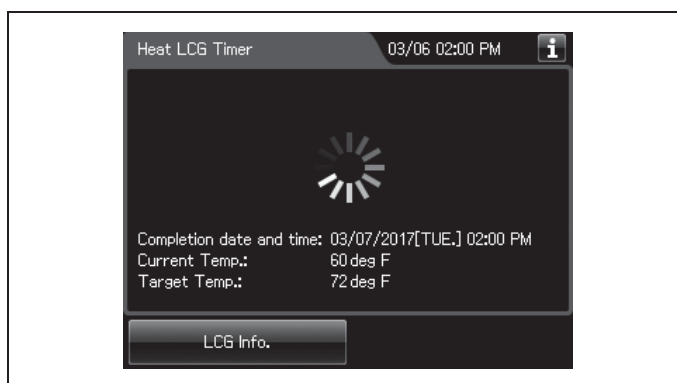

Figure 7.10
- If no operation is made more than 5 minutes, the touch screen appears to turn off. To display the touch screen again, press the touch screen or the button on the control panel. For detail of executing, the touch screen displays a screen as shown Figure 7.10.